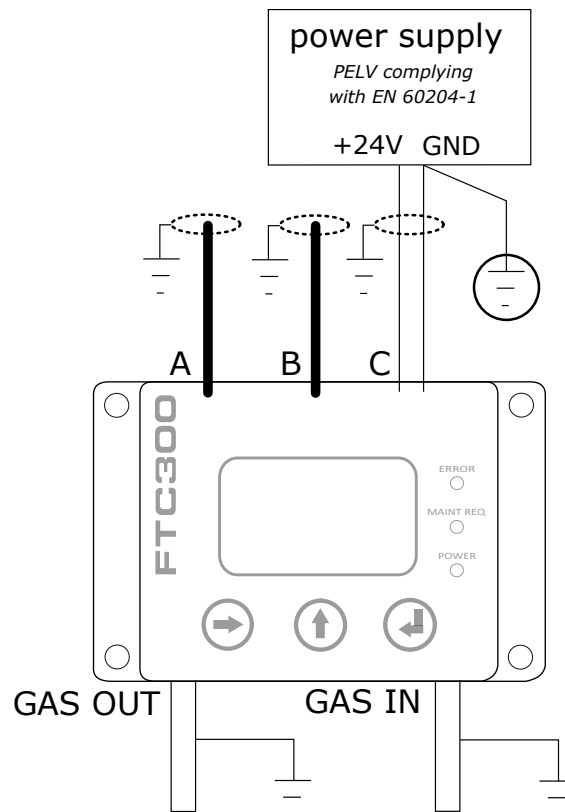

Figure 3.3: Grounding the FTC320
To comply with EN 60204-1 and to ensure your device's function, the device has to be installed such that the power supply (PELV) is connected to protective earth (PE) with its ground conductor, see Figure 3.3. The shielding of cables A, B and C should be connected to functional ground. Dependent on the circumstances, gas inlet and gas outlet can be grounded in addition. Connections to the ground should be made with short low-resistant cables of large diameter.